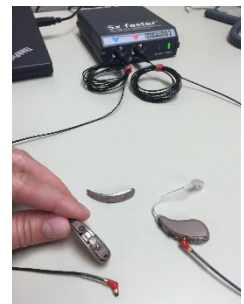

Figure 22: Processor set-up
- b. Connect the Processors to the HI-PRO 2, using programming cables (Figure 22).